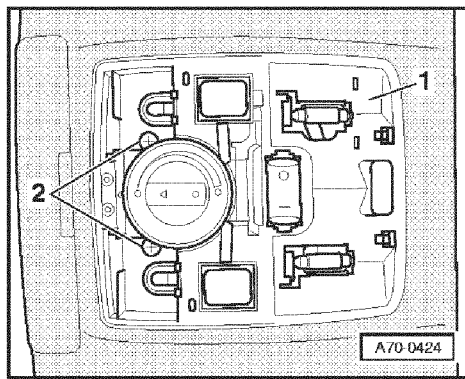

Fig.1 Removing and installing cover for moulded headliner cut-out
◀ Fig.1 Removing and installing cover for moulded headlining cut-out and interior light ▶ MY 2000
- Remove cover for moulded headlining cut-out and reading lamp => Fig. 1